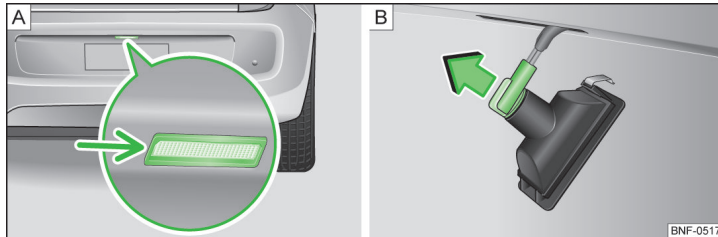

Fig. 133 Remove the number plate light/replace the bulb
- Insert a slotted screwdriver into the gap in the arrow area » Fig. 133 - **A** and remove the lamp.
- Turn the bulb holder **anti-clockwise** and remove in the direction of the arrow » Fig. 133 - **B**.